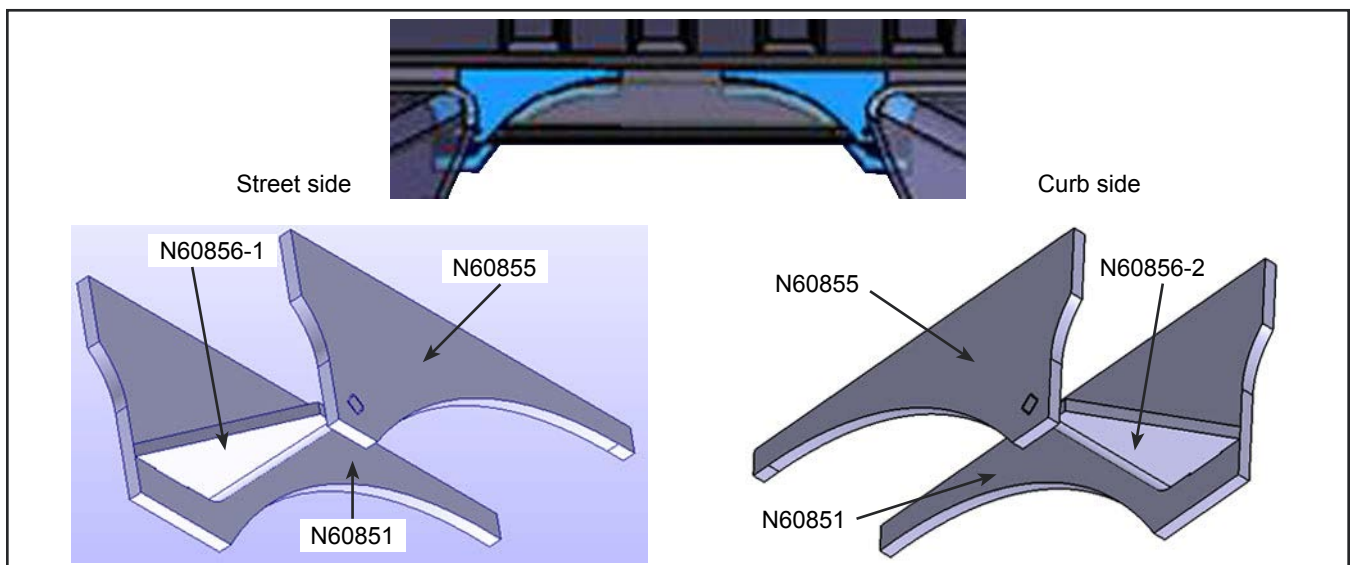

Figure 8 - Position of Plates in Zone 1
17. Weld the plates N60851, N60855 and N60856-1 in street side of zone 1 and plates N60851, N60855 and N60856-2 in curb side of zone 1. See Figure 8 for the position of the plates.